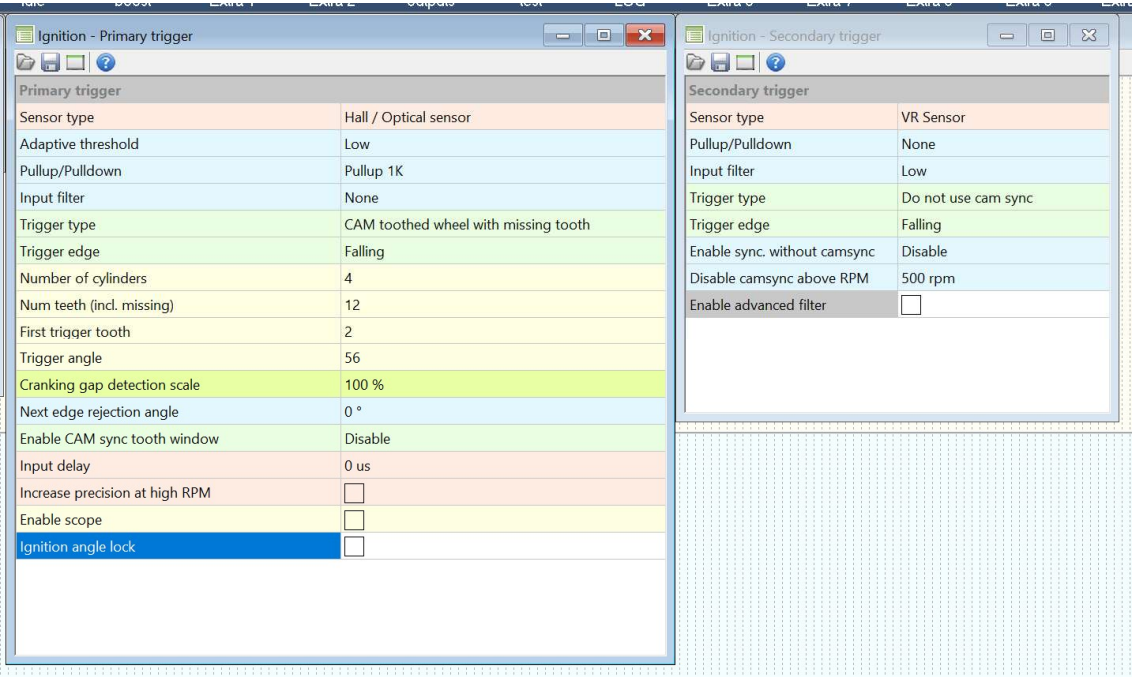

Figure 14 - ECUMaster Trigger Setup
10. Hardware installation is now complete. Assemble everything back together and perform the wiring. Wiring pinout on figure 14 of this installation guide.